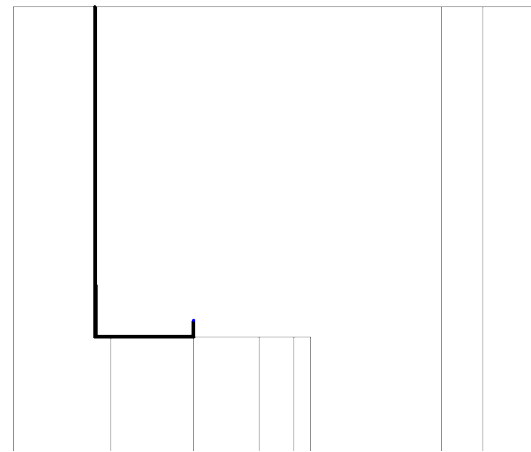

Fig. 51
Step 7. Click **Line**  (L) on the Sketch toolbar.
Step 8. Starting from the bottom endpoint of converted line, sketch line across top of Hook housing and a short vertical line up at from right vertex of housing, **Fig. 51**.